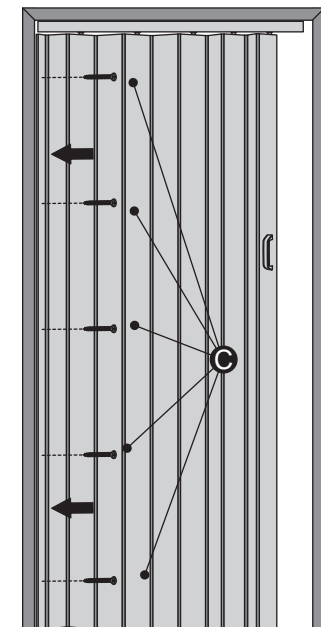

fig. 12
5. Use Screws ④ to fix the Folding Door ③.
**See fig. 12.**